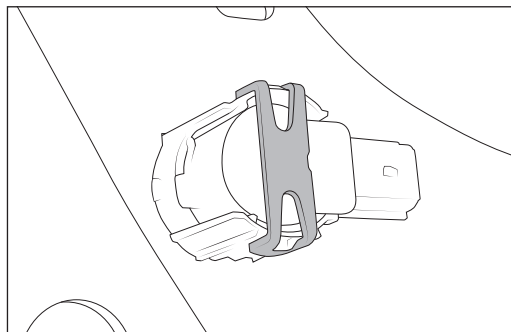

Figure 19
3. Install locking clip onto back of bezel (fig. 19).